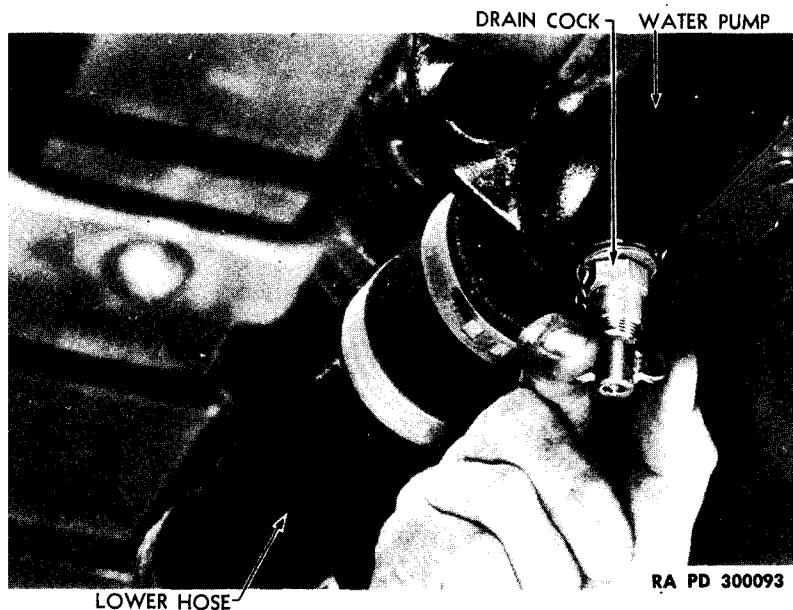

Figure 50—Draining Cooling System
(1) **DRAIN COOLING SYSTEM.** Open drain cock at bottom of water pump (fig. 50).
b. **Remove Thermostat.** Drain approximately four quarts coolant from cooling system (fig. 50). Disconnect engine water outlet hose at thermostat housing. Disconnect engine water bypass tube hose at thermostat housing. Remove four cap screws from thermostat upper housing. Swing air cleaner support brace to one side. Lift thermostat out of housing. Note relative position of thermostat in housing, to avoid installing upside down (fig. 58).